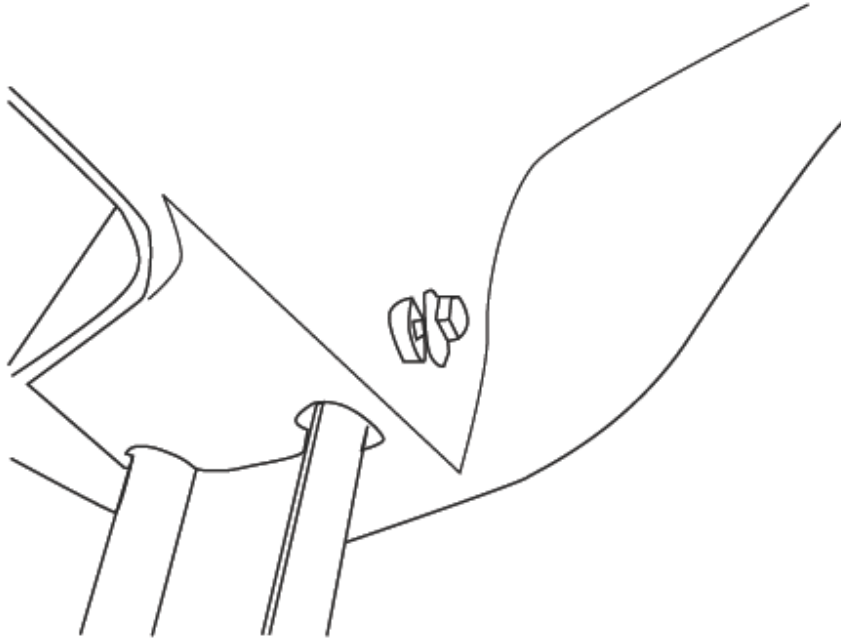

Figure 20
- 20)** To secure the ladder to the slide screw into the previously drilled holes (one per side rail) a (#11) 5/16" x 1" lag screw, a (#12) 5/16" x 7/8" flat washer and a (#13) 5/16" x 3/4" rubber washer tightening to 8 ft.-lbs of torque. See Figure 20.